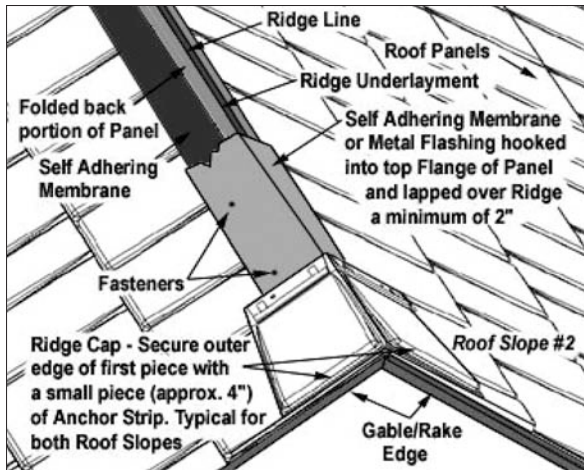
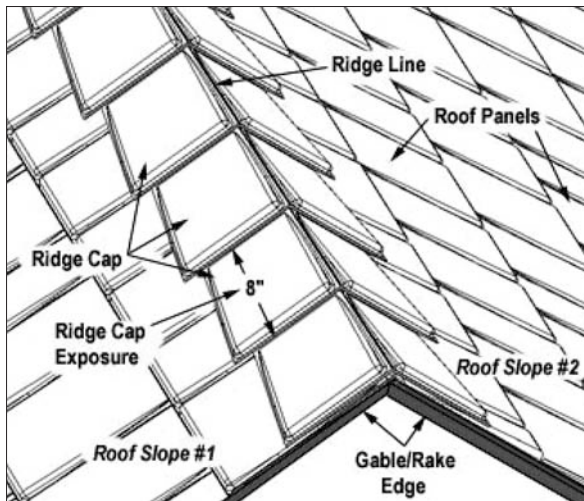

FIGURE 1-34 Ridge Cap Application
FIGURE 1-35 Completed Ridge Application
See Figure 1-34 and Figure 1-35.
3. The first Hip/Ridge Cap will need to be formed to hook under the Edge Flashing or panel to secure it. In some cases, it maybe practical to apply a small piece of Anchor Strip on top of the panel below to attach the front edge of the Ridge/Cap to. *See Figure 1-34.*